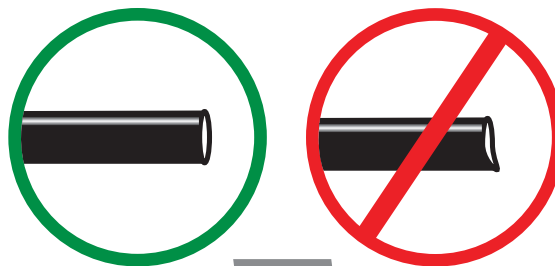

fig. 13
- a. Check the air line connection by deflating the spring and removing the line by pulling the collar against the fitting and pulling firmly on the air line. Trim 1" off the end of the air line. Be sure the cut is clean and square (see Fig. 13). Reinsert the air line into the push-to-connect fitting.
2. If the preceding steps have not resolved the problem, call Air Lift customer service at (800) 248-0892.